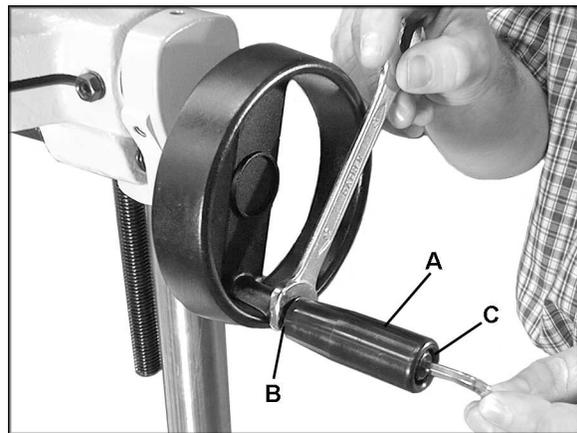

Figure 4
9. Attach a handle (A, Figure 4) to each hand wheel, by screwing the threads of the handle into the hole on the hand wheel.
10. The handle (A, Figure 4) should be adjusted so that it can move freely. Loosen the hex nut (B, Figure 4) with a 14mm (9/16") wrench, and turn the screw (C, Figure 4) with a 5mm hex wrench until the handle (A, Figure 4) is just loose enough to turn freely. Then tighten the hex nut (B, Figure 4) against the hand wheel.